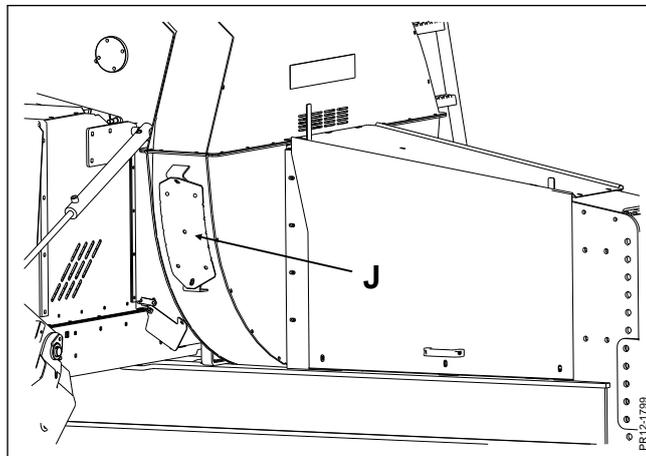

Fig. 3-1
**Fig. 3-1** This is done by dismantling the inspection door (**J**) at the side of the turbine casing. This makes it possible to turn the rotor and check that the vanes are not bent. If they are bent, they must be replaced. See the spare parts book.